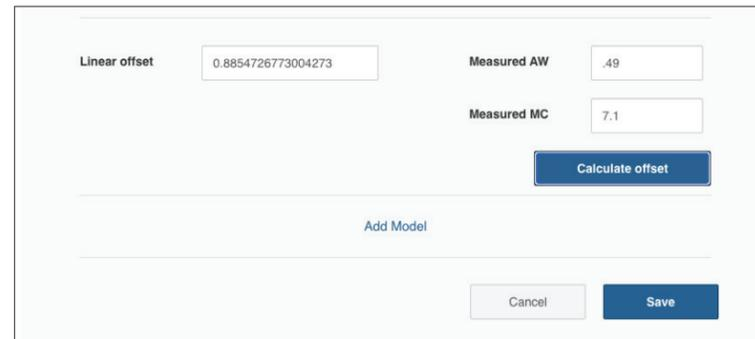

Figure 19 Linear offset section
12. In the Moisture Content Model portion of the Edit Product screen, scroll down to the Linear offset section (Figure 19).